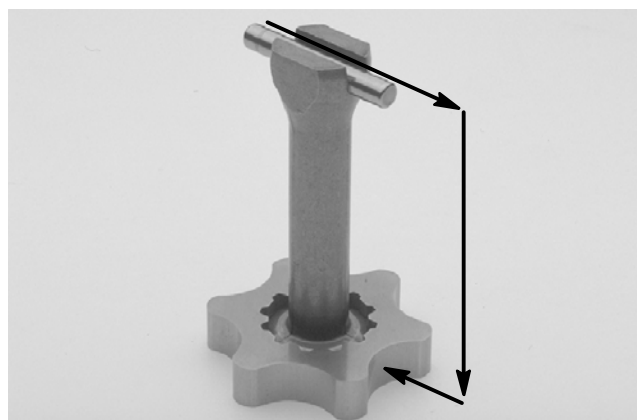

Figure 75
**IMPORTANT: The gear wheel fits into the cardan shaft from one direction only. The tooth base on the wheel should be positioned in relation to the shaft slot (Fig. 75).**